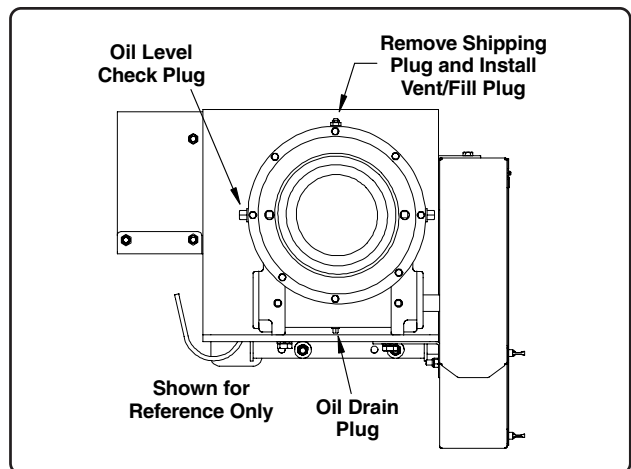

Fig. 16
IMPORTANT! The electric winch is shipped **with oil already added to the gearbox**. It is necessary to **install the vent/fill plug** that is shipped with the winch. Remove the plug from the top of the gearbox and install the vent/fill plug (See Fig. 16).
2. Add an **EP 85W140** non-foaming multipurpose gear oil into the top vent/fill plug opening until oil begins to leak from the opening in the side of the gearbox. Reinstall the plugs (See Fig. 16).